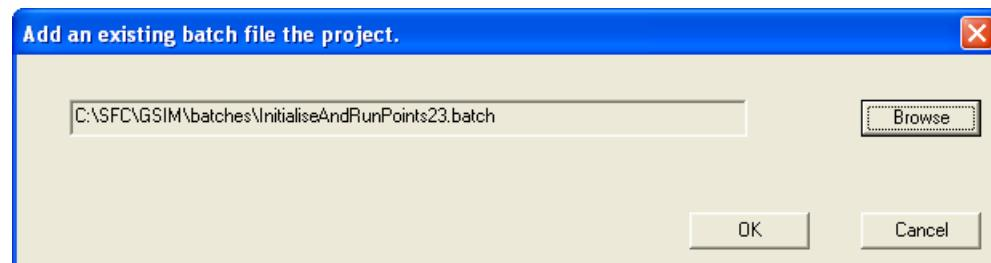

Figure 4.61 "Add an existing batch file to the project" dialog box
- click Add a batch. GSIM will invoke a dialog box similar to figure 4.61;